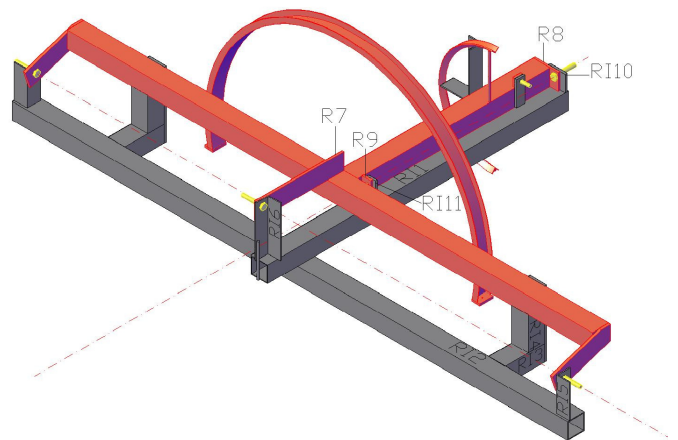

Fig. 11: Assembly of RS step 7
- Step 6** Place R7 in position and tighten the bolt. (See Fig.11). Make sure R7 is parallel to R1 and weld it with 4 strong spots on the corners of R2.